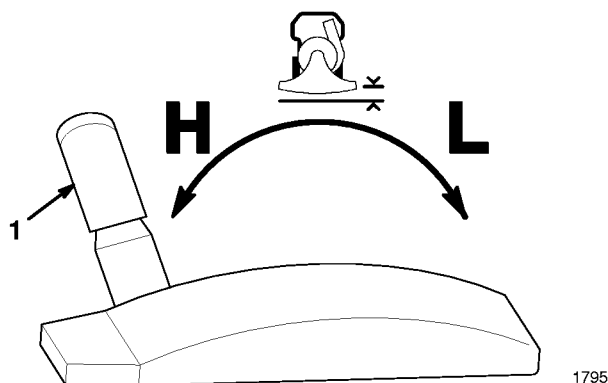

Figure 12
3. Move the height adjustment control forward to lower the intake housing; move to the rear to raise the housing (Fig 12).